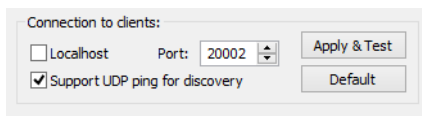

Figure B-18: Connection to clients box
3. In the Connections to Clients box (Figure B-18), make changes to the server settings as needed.
To return to the originally configured Octet® GxP Server module settings, go to the Connections to clients box (Figure B-18) and click Default.